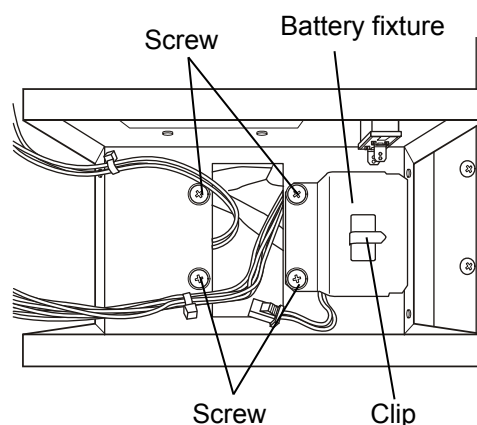

Fig. 4
5. Put the battery fixture over the battery and fix the battery box and battery fixture by 4 screws. [Fig. 4]
6. Connect the harness to the battery connector and battery switch [Fig. 5] and bind the harnesses by the clip on the battery fixture. [Fig. 4]